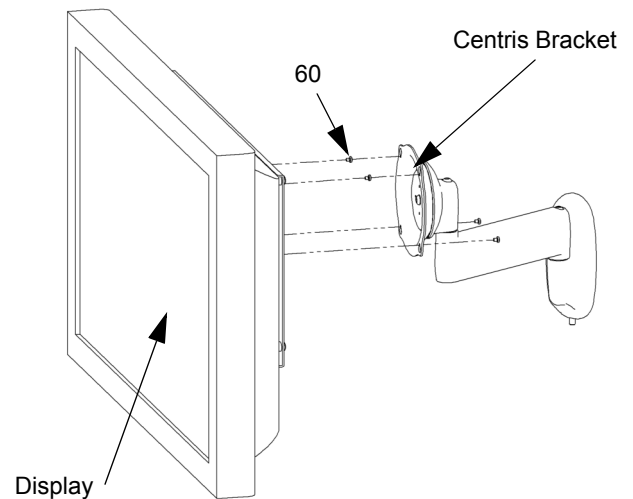

Figure 4: Flush Mount Centris Bracket to Display
1. Install two M4 x 12mm screws (60) into the top mounting holes (not shown) on the display.
2. Align the mounting holes on the Centris bracket with the screws installed on the display. Hang the display on the Centris bracket. (see Figure 4).
3. Install two remaining M4 x 12mm screws (60) into the bottom mounting holes on the display.